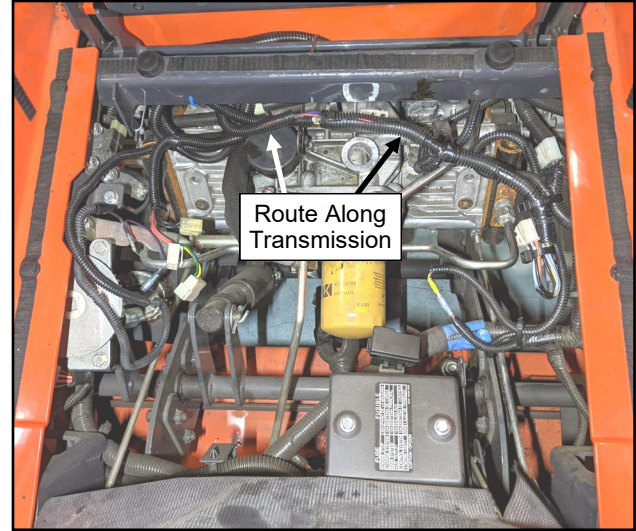

Fig. 7.15 (Route Wiring)
7.15 See fig. 7.15. Route the remaining section of the harness with the yellow wire and bullet connector forward from the battery area over the ROPS and up under the seat. The harness should run across the top of the transmission along the existing OEM harness and end on the left side of the vehicle.